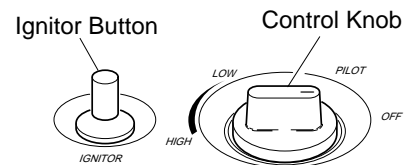

Figure 15 - Control Knob In The OFF Position
- Turn control knob clockwise to the OFF position (see Figure 15).
- Wait five (5) minutes to clear out any gas. Then smell for gas including near the floor. If you smell gas, **STOP!** Follow "B" in the safety information, column 1. If you don't smell gas, go to the next step.
- Press in control knob and turn counterclockwise to the PILOT position. Keep control knob pressed in for five (5) seconds (see Figure 15).